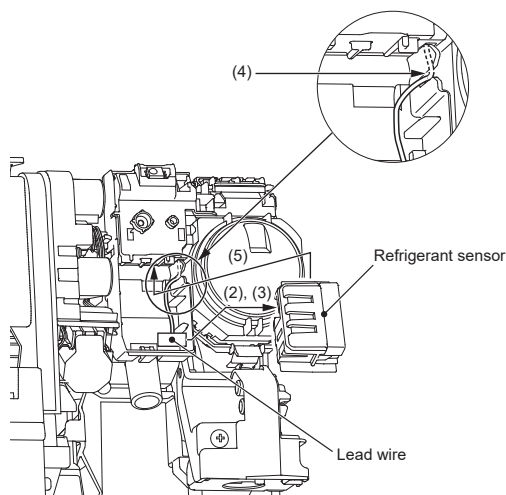
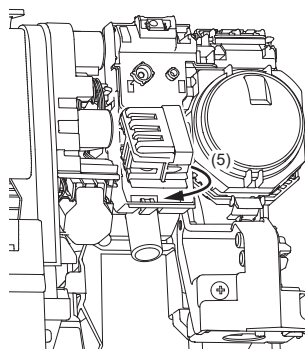

Fig. 1
Fig. 2
- (2) Take out the lead wire. (Fig. 1)
- (3) Connect the lead wire to the refrigerant sensor. (Fig. 1)
- (4) Push the lead wire into the slit so that the refrigerant sensor does not press it.
- (5) Install the refrigerant sensor as shown in the figure. (Fig. 2)